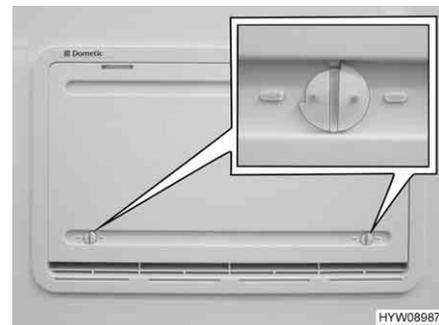

Fig. 63 Winter cover
Winter cover The winter covers (Fig. 63) protect the cooling unit against cold air. Place winter covers in front of both ventilation grills when the external temperature falls below +10 °C (both for gas and electrical operation).
- Open both locks (Fig. 63) (groove in horizontal position).